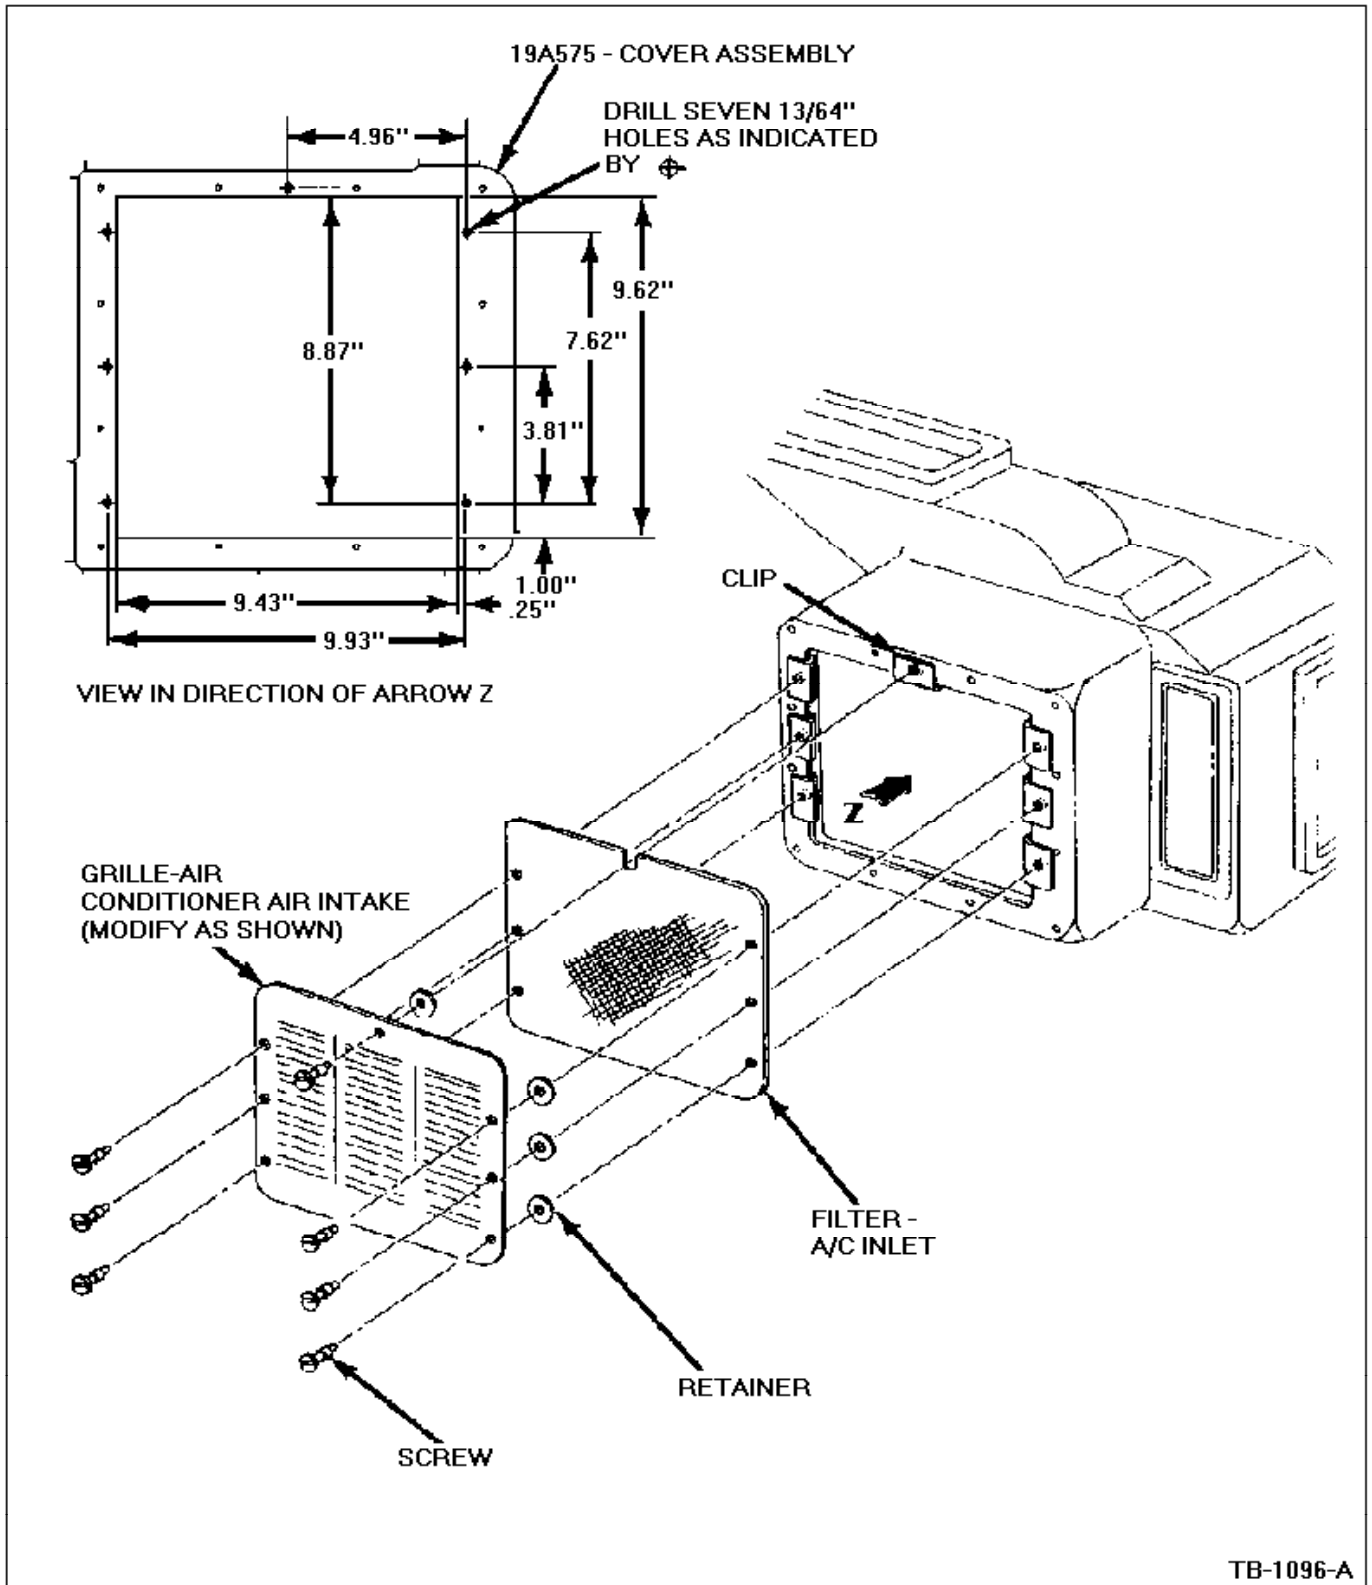

Figure 1 - Article 89-11-12
4. Drill seven (7) 13/64" holes through the grille and evaporator case housing in the locations shown in Figure 1, View "Z".
5. Remove the grille and enlarge the seven (7) holes that were drilled in the evaporator case housing. Use a 17/64" drill.
6. Install seven (7) "J" clips, (E9HZ-19150-A) on the evaporator case housing, Figure 1.
7. Insert seven (7) screws, (EOHZ-8N122-A) through the front of the grille.
8. Install seven (7) retainers, (EOHZ-8N108-A) on the screws from the backside of the grille, Figure 1.